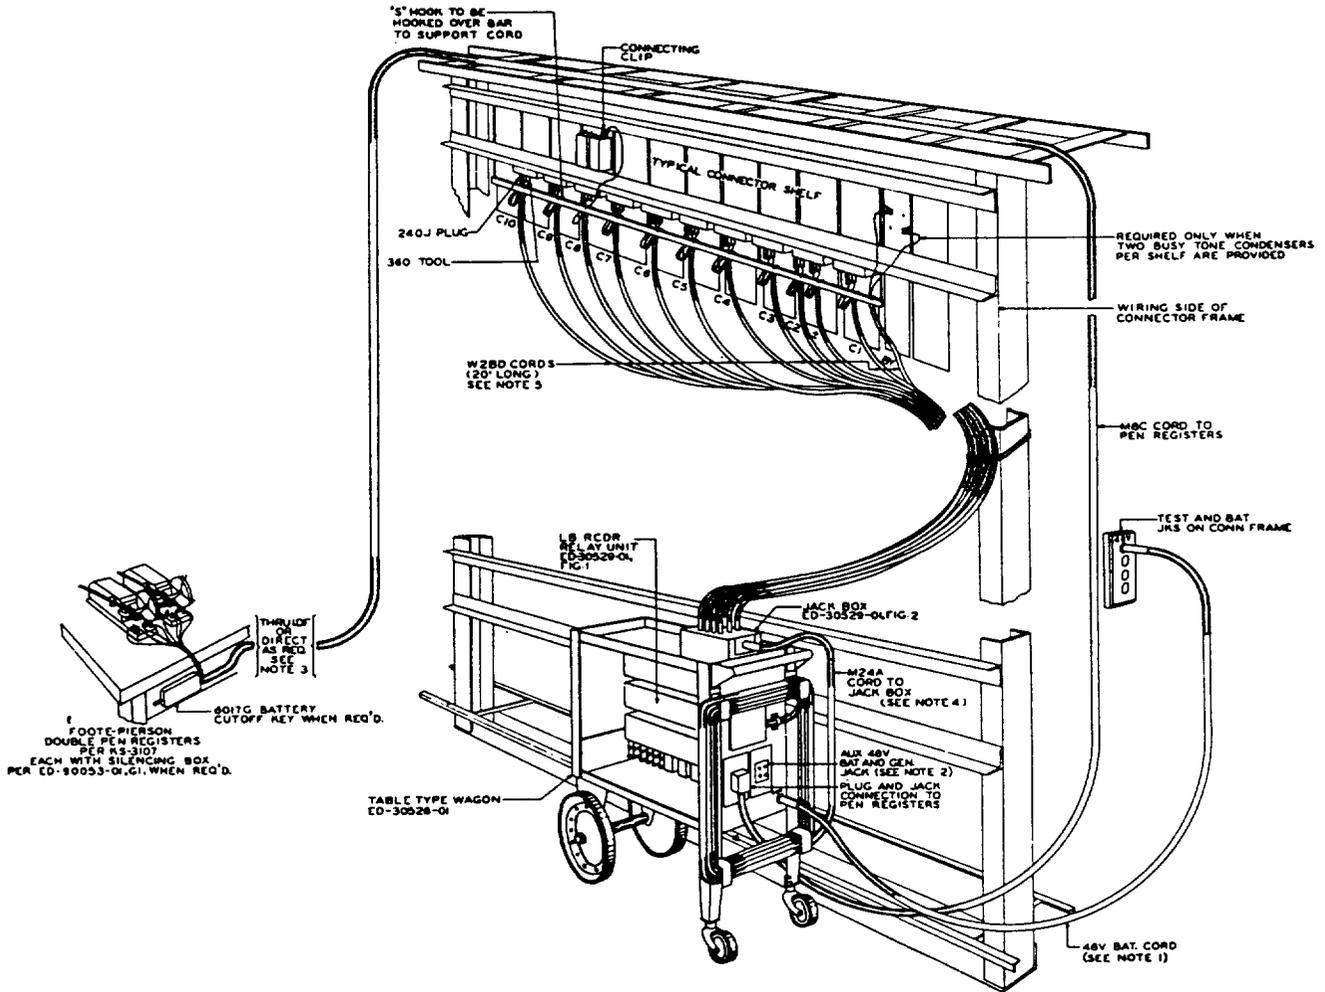

Fig. 2 - Method of Connecting Recorder to Associated Circuits.
4.09 Fig. 2 shows a typical installation of the line busy recorder.